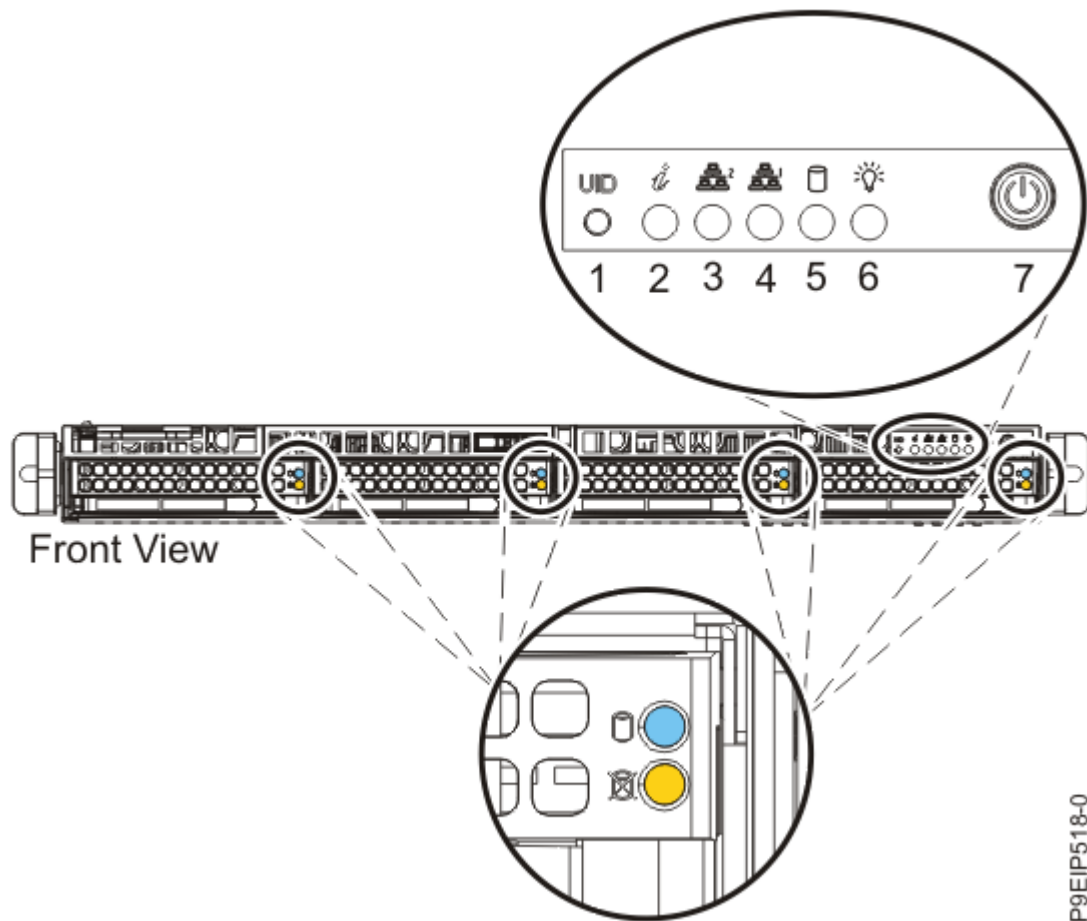

Figure 70. Power switch for the 7063-CR1 system
2. Press the power button **(7)** shown in Figure 70 on page 85.